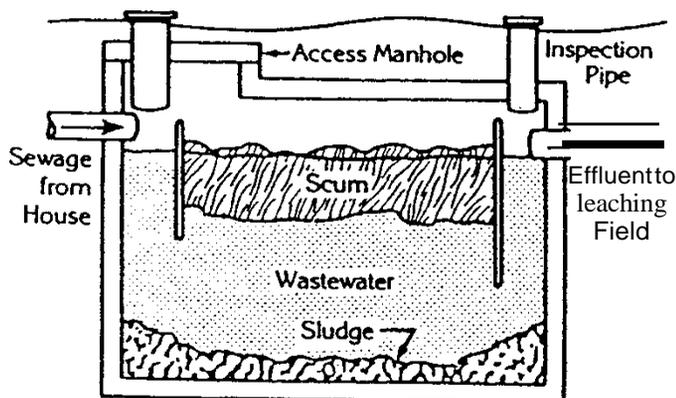

Figure 1: A TYPICAL SEPTIC TANK
The purpose of the septic tank (Figure 1) is: (1) to provide an airtight storage container where the household sewage is retained for 2-3 days, so that solid materials can settle to the bottom and (2) to provide for the optimum growth of bacteria which digest and liquefy the settled solids. The bacteria which are common in human waste, reduce most of the solids to liquids, leaving behind an indigestible sludge which slowly builds up in the bottom of the tank and must be removed from time to time. The digestion process produces gas which rises to the top of the tank and carries with it grease and lighter particles of solid matter. These collect at the surface forming a thick layer of scum which provides a breeding place for more bacteria. The partially treated water (effluent) flows from the septic tank to the distribution box or to a holding tank and then to the absorption field where it is purified as it passes through the soil. Some effluent is drawn to the ground surface and evaporates while most of it moves downward and replenishes the ground water.